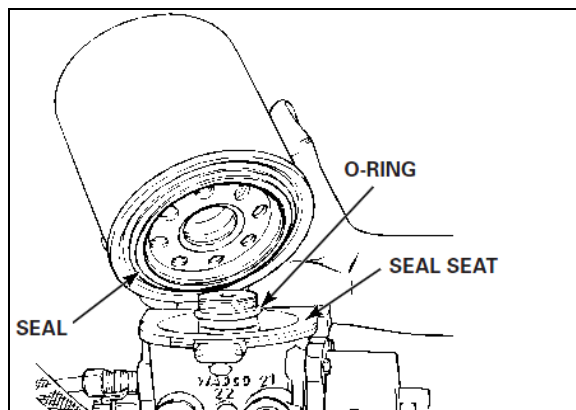

FIGURE 10: DESICCANT CARTRIDGE REPLACEMENT
5. Remove and discard O-ring from dryer base. Inspect and clean seal seat (Figure 10).